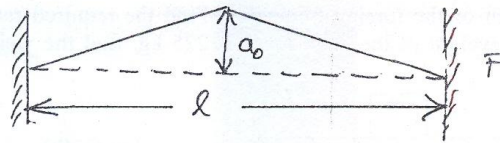

Fig.Q8
- 8 A uniform string of length l and a large initial tension s , stretched between two supports, is displaced laterally through a distance a_0 at the centre as shown in Fig.Q8 and is released at $t = 0$. Find the general solution and from the general solution obtain the equation of motion for the string. (20 Marks)